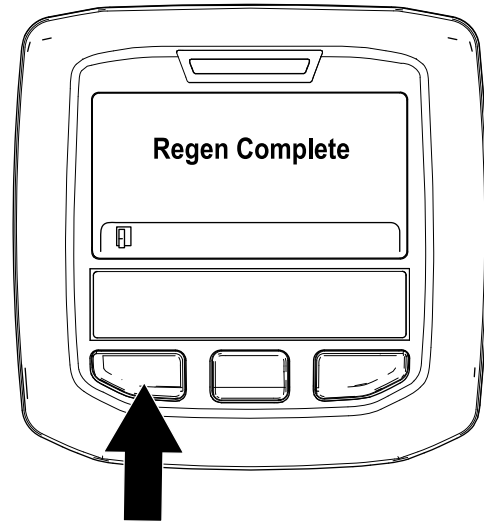

Figure 54
9. The parked regeneration is complete when the “Regen Complete” message displays in the InfoCenter. Press the left button to exit to the home screen (Figure 54).